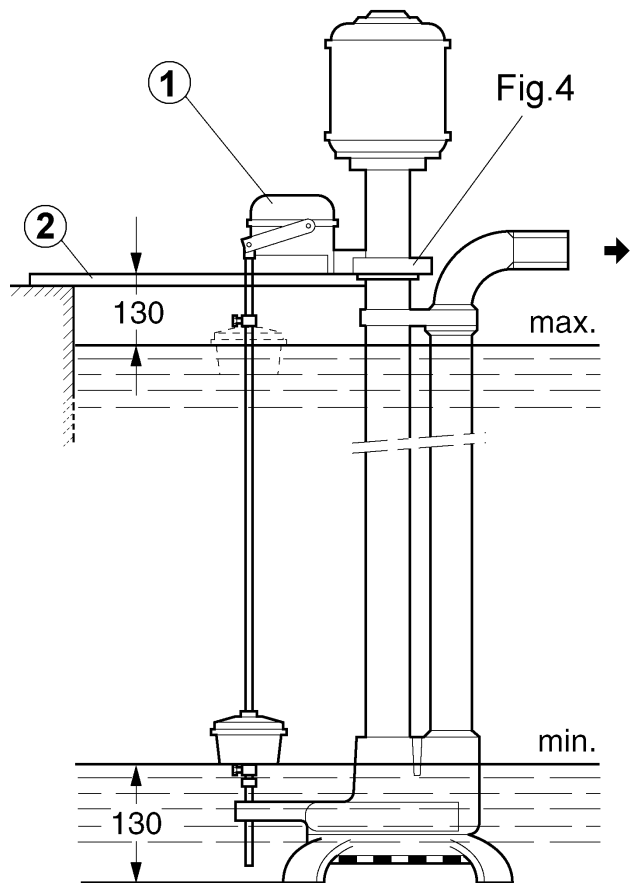
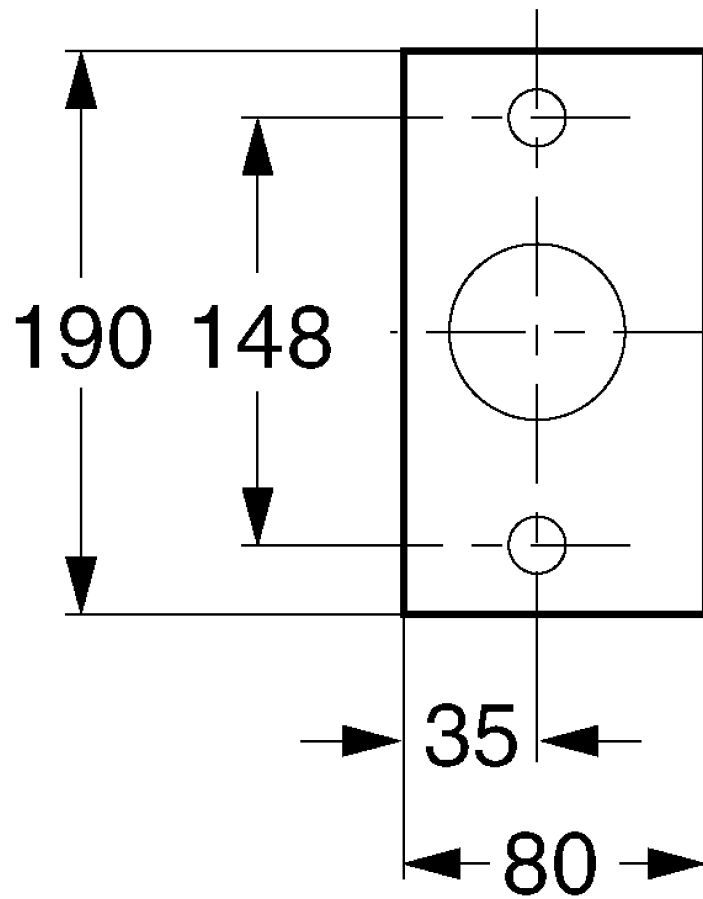

Fig. 2
Fig. 4
VC 40: separately mounted switch box (Fig. 2, pos. 1)
- The VC 40 pump can be fixed into 2 horizontal shaft covering halves (Fig. 2, pos. 2) using a fixing flange (Fig. 4).